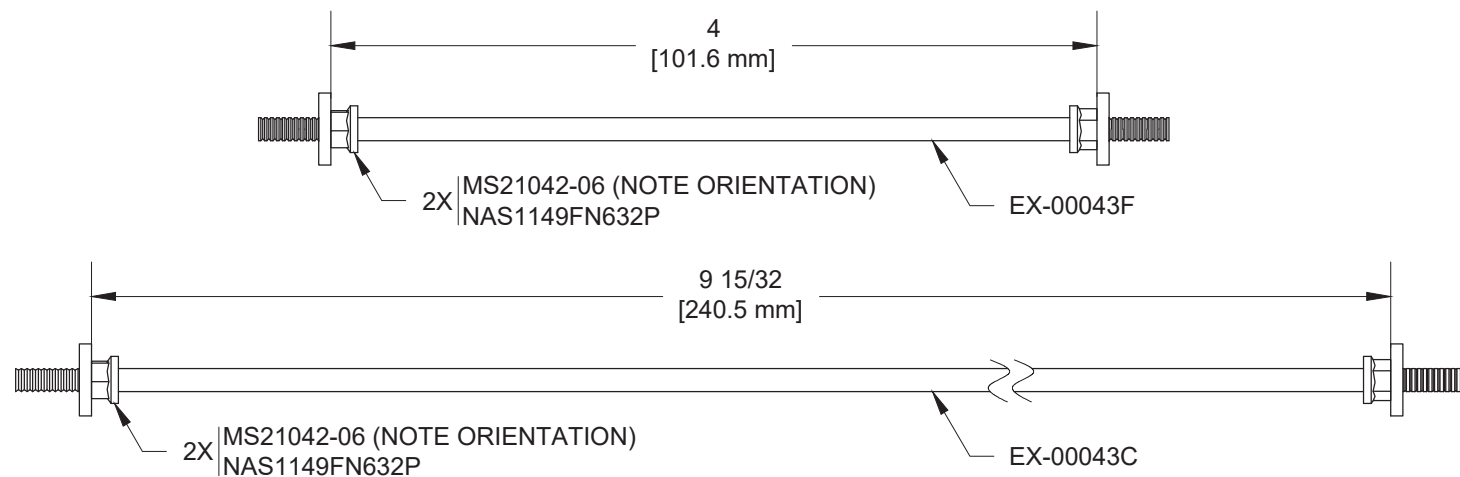

FIGURE 1A: HEAT MUFF ROD ASSEMBLIES
Step 1: Assemble two each of the EX-00043C and EX-00043F Heat Muff Rod Assemblies as shown in Figure 1A.